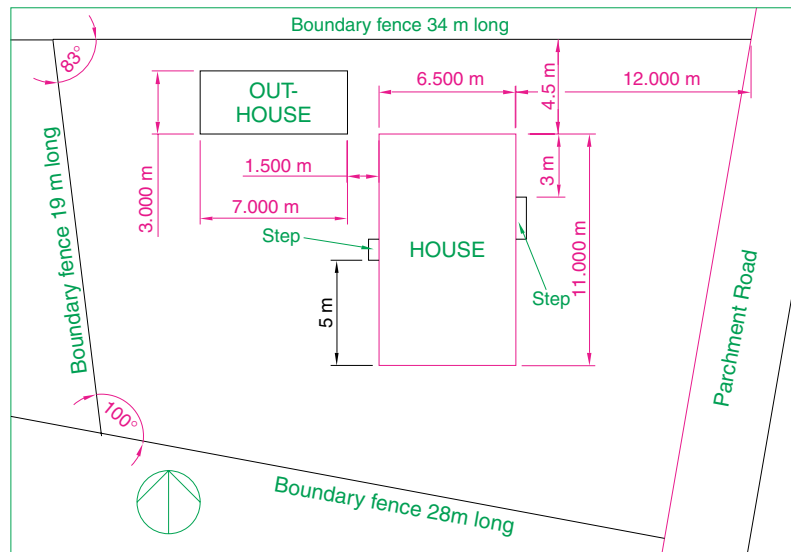

Fig. 12.10 Exercise 2
2. Fig. 12.10 is a site plan of a two-storey house to be built on a building plot.